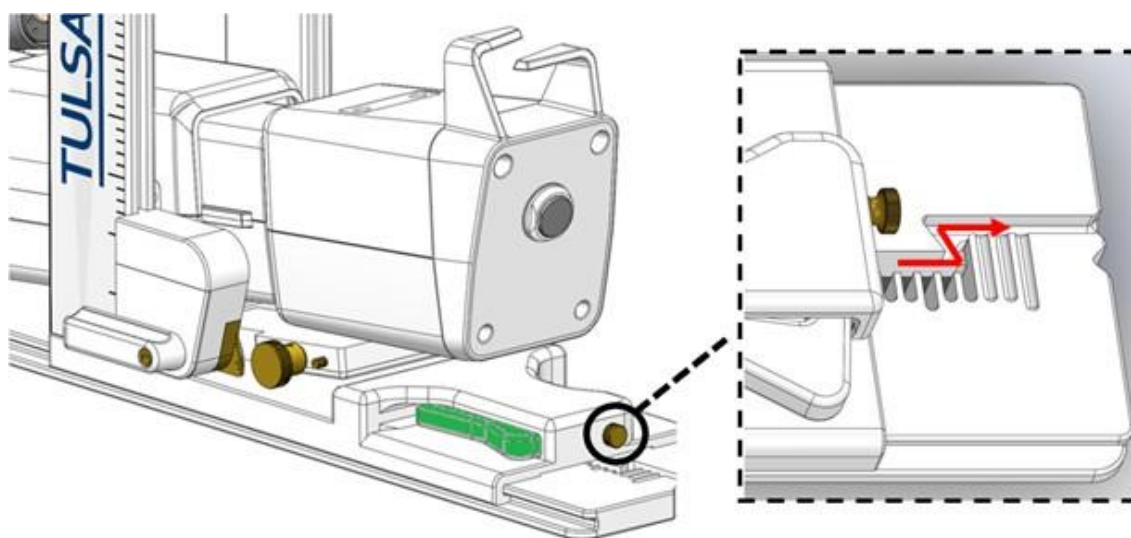

Figure 68: Removing PS from base plate
1. Remove the PS from its notched base plate by partially unscrewing the thumbscrew located on the rear of the PS base and depressing the horizontal adjustment lever through the Z channel at the rear of the PS base (*Figure 68*).